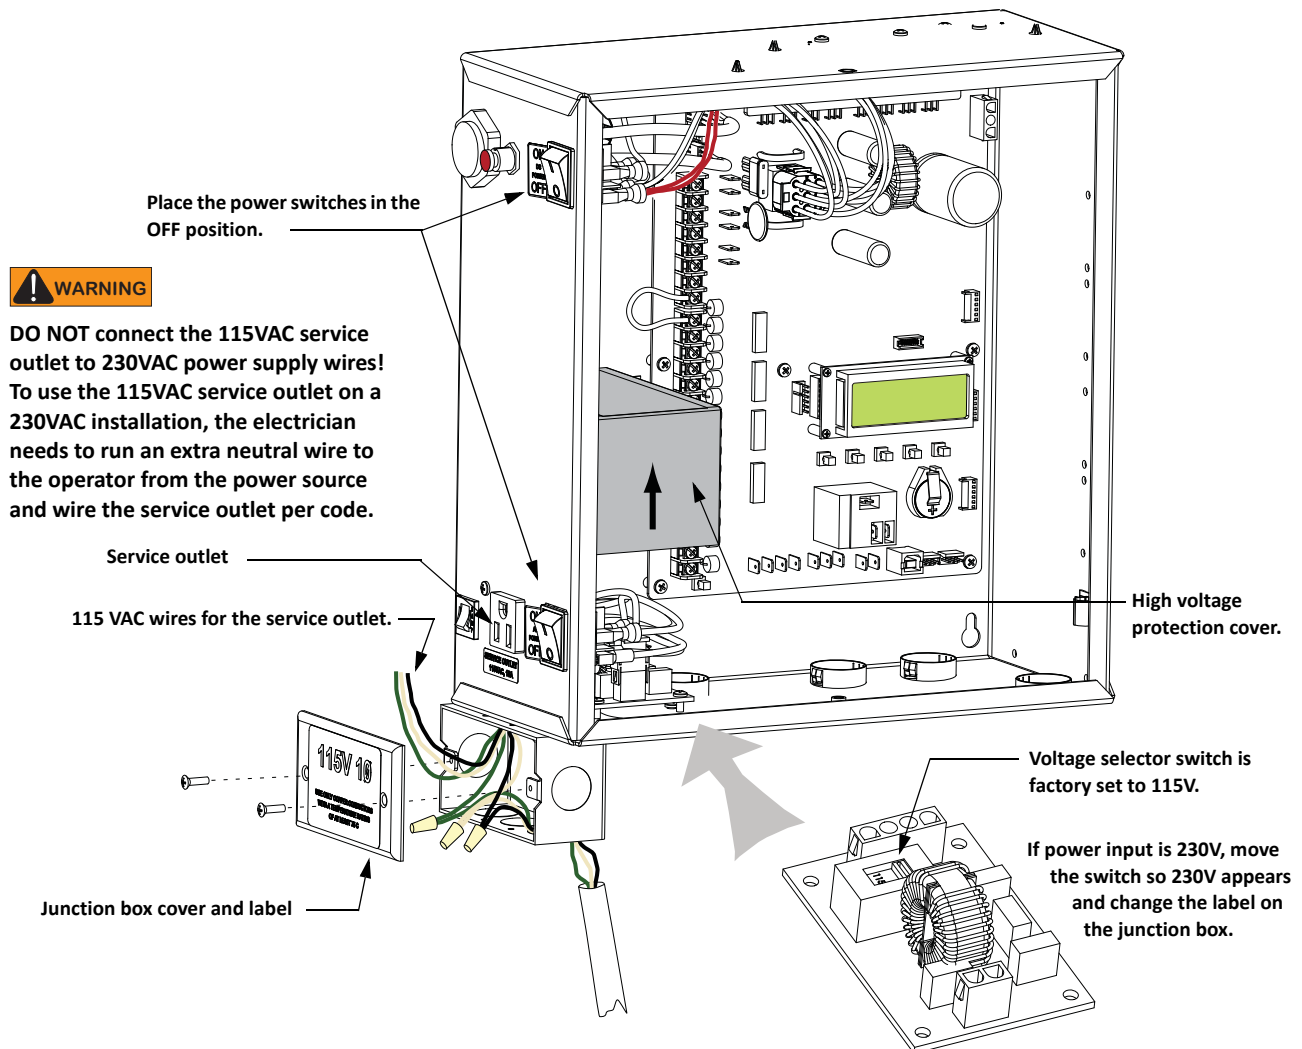

Figure 2-2.
Turn off AC power at the source (circuit breaker panel) before accessing the wires in the SwingSmart junction box. Follow facility Lock Out/Tag Out procedures. Make sure both the DC and AC power switches, on the side of the SwingSmart control box are in the off position. See Figure 2-2.
Wiring of gate operators must conform to the NEC standards and comply with all local codes. If you plan to connect to 230VAC power, read the WARNING in Figure 2-2. The voltage selector switch on the AC Power board must be moved to the 230V position or damage to the operator will occur and void the Limited Warranty.
2. Access the input power wires and service outlet wires by removing the two Phillips-head screws that secure the high voltage junction box cover. See Figure 2-2.